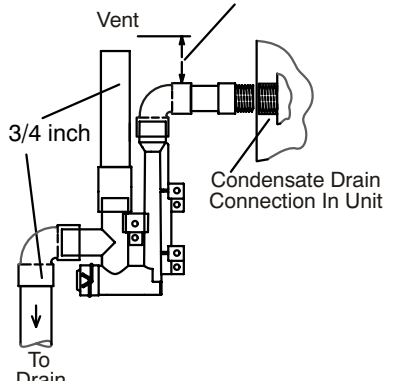

FIGURE 57
- 4 - Install drain trap using appropriate PVC fittings, glue all joints. Glue the provided drain trap as shown in FIGURE 57. Route the condensate line to an open drain. Condensate line must maintain a 1/4" downward slope from the furnace to the drain.